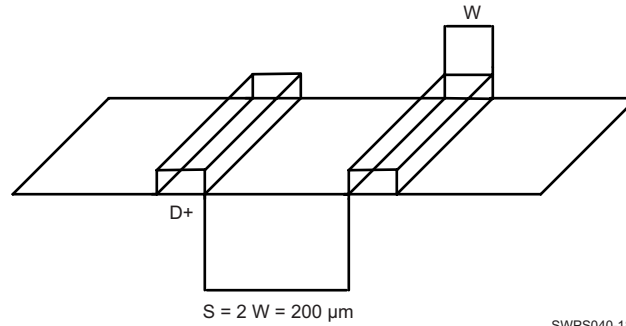

图 7-29. Ground Guard Illustration
- For a line width equal to W , the spacing between two lines must be $2W$, at least. This minimizes the crosstalk between switching signals between the different lines. On the PCB, this is not achievable everywhere (for example, when breaking signals out from the device package), but it is recommended to follow this rule as much as possible. When violating this guideline, minimize the length of the traces running parallel to each other (see 图 7-29).